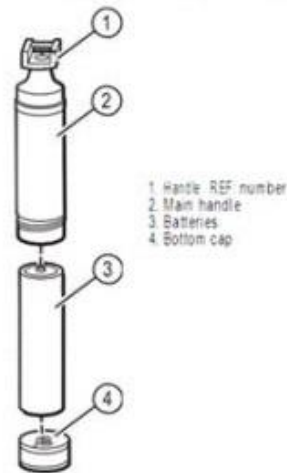

Figure 3
1. Inspect each component area (per figure 3) for damage or deterioration.
1. Inspect each component area per figure 3 for damage or deterioration.